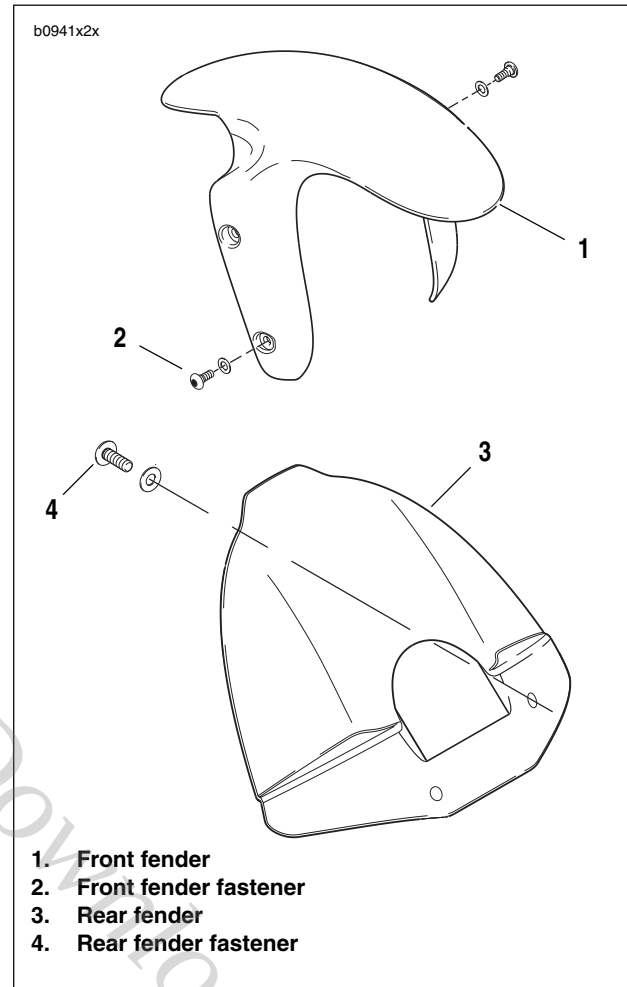

Figure 2-115. Front and Rear Fender
1. See Figure 2-115. Remove fasteners and washers (2) securing the front fender (1) to front forks.
2. Carefully remove front fender (1).
1. See Figure 2-115. Align front fender (1) to fender mounts on front forks.
2. Install front fender (1) with fasteners and washers (2) and tighten to 12-36 **in-lbs** (1-4 Nm).
2. See Figure 2-115. Remove fasteners and washers (4) securing the rear fender (3) to frame.
3. Remove rear fender (3).
1. See Figure 2-115. Align rear fender (3) to frame.
2. Install rear fender (3) with fasteners and washers (4), Tighten to 12-15 **in-lbs** (1-1.7 Nm).